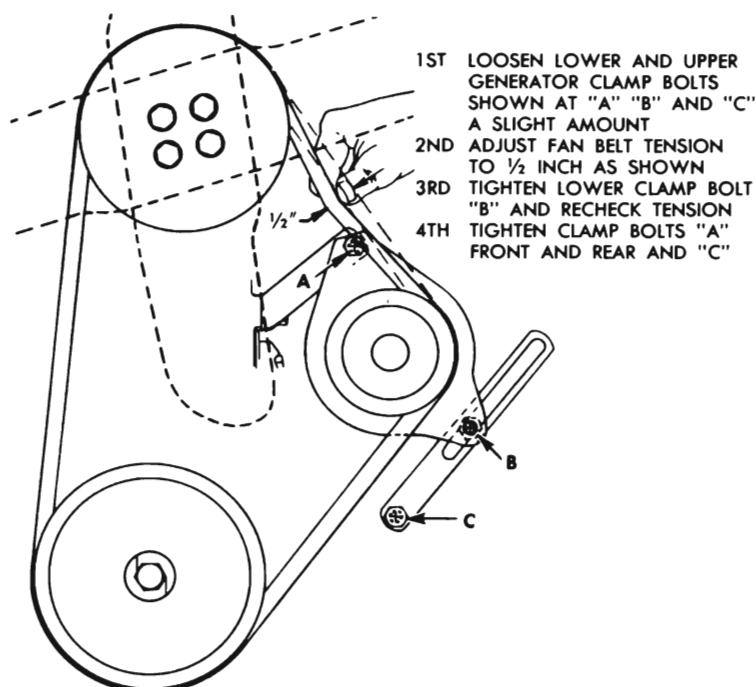

Figure 10-18—Fan Belt Adjustment
5. Check fan belt for condition and proper tension (fig. 10-18), and make certain that all generator mounting bracket and brace bolts are tight. A loose fan belt will permit belt slippage, resulting in rapid belt wear and low or erratic generator output. An excessively tight belt will cause rapid belt wear and rapid wear of generator and water pump bearings. **NOTE:** *If belt requires adjustment, first loosen belt so*